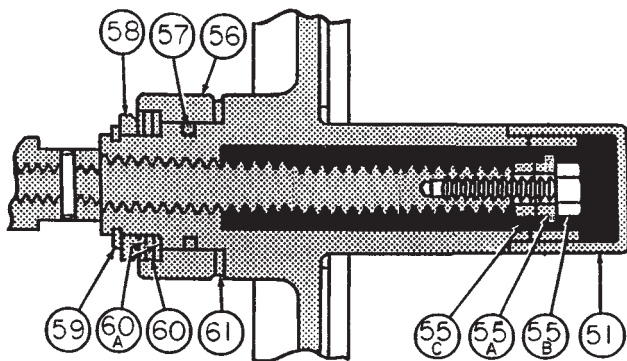

Figure 5 - Handwheel Detail, Actuator Sizes B & C
- A. Remove retaining clips (63) and push out pin (66). Make sure bushing (65) remains in the arm (64).
- B. Remove the pivot pins (72) and remove handwheel subassembly.
- C. Remove handwheel shaft subassembly (55) retaining ring (59) and unscrew nut (58). Remove needle bearing and race (60). Clean and check needle bearing and race for signs of wear. Replace if necessary.
- D. Remove handwheel pivot (56) and thrust washer (61). Check washer and replace if necessary. Check O-ring (57) and replace if necessary.
- E. Clean ACME threads on handwheel (54) and shaft S/A (55) and grease with Molykote G.
3.5.1.2 Reassembly (Figure 5)
- A. Install thrust washer (61) and O-ring (57). Apply silicone lubricant sparingly to O-ring.
- B. Slide handwheel pivot (56) onto the handwheel subassembly. Lubricate and install bearing race, needle bearing and outer race.
- C. Install nut (58) bevel side toward bearing race and screw down tight. DO NOT OVERTIGHTEN. Replace retaining ring (59). Correct assembly should have the nut (58) touching the retaining ring (47).